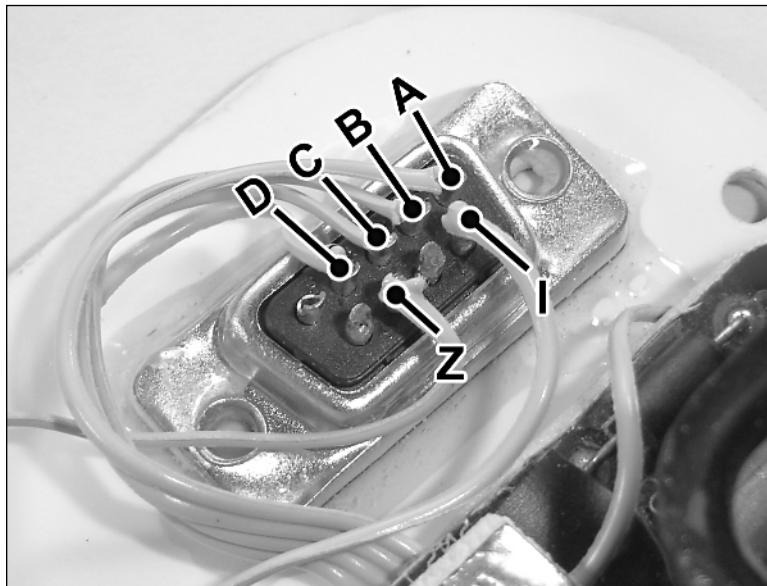

FIGURE 17-14: Connecting the Player 2 joystick port to the Atari.
1. Figure 17-14 shows how to connect wires between this joystick port and the Atari board. These letters refer to spots on the MLL (Master Lead List).